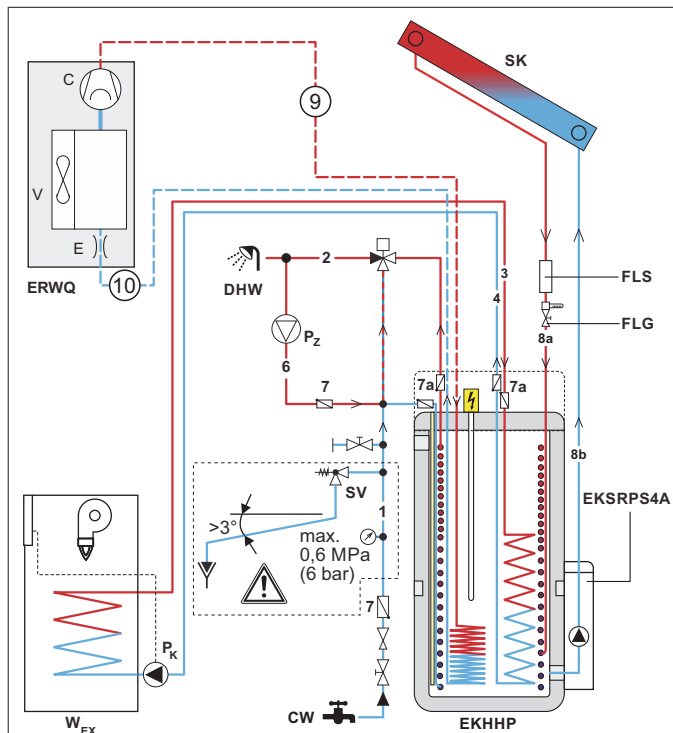

Fig. 3-5 Hydraulic connection - for the legend, see tab. 3-2 (example EKHHP500A*2V3 with $p=0$ solar and optional external heat generator)
- 4 Establish hydraulic connections on the DAIKIN EKHHP (see fig. 3-5).
Tab. 3-2 Legend for fig. 3-5
- Implement the hydraulic system integration according to fig. 3-5.